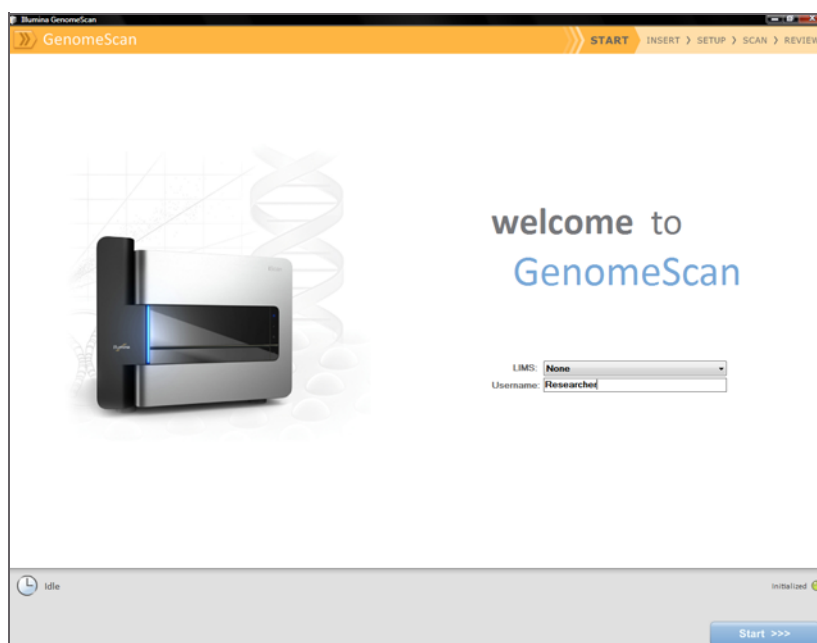

Figure 74 Welcome Window
5. Set the **LIMS** dropdown list to **None** and enter your Windows user name (Figure 74).